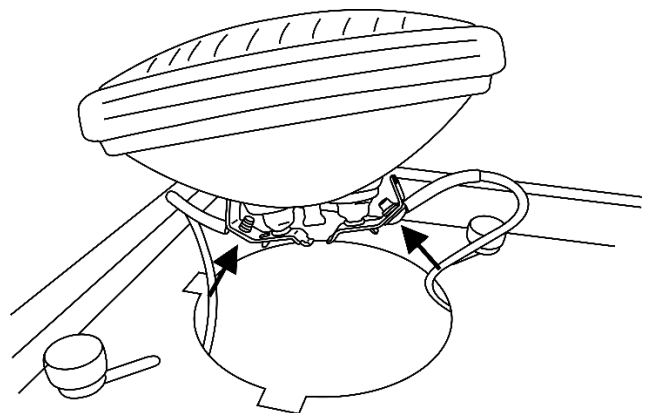

Fig. 06
- 06) Take the 2 cables and, using the screws, fit them to the back of the lamp. Place the lamp in the housing (fig. 06).